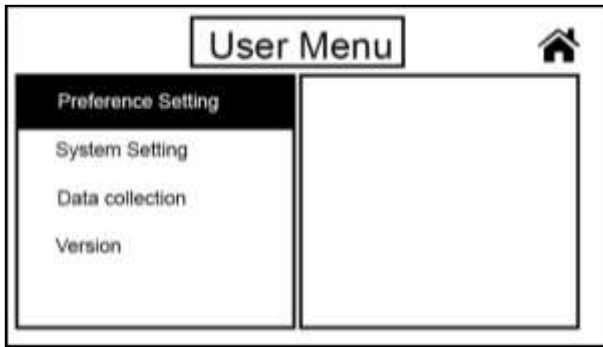
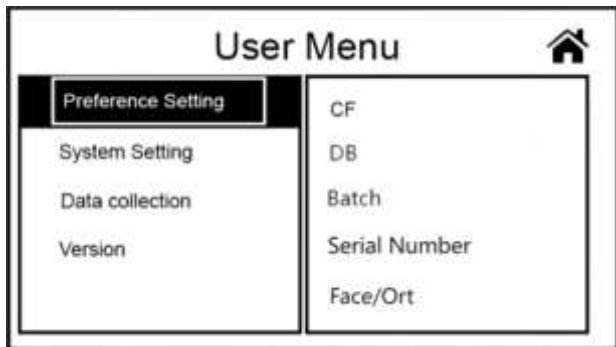

Figure 72
Figure 73
1) Touch the “Menu” key to enter the “User Menu” interface, as shown in Figure 72 below. Then press “Preference Setting” to enter the “Preference Setting” interface, as shown in Figure 73.